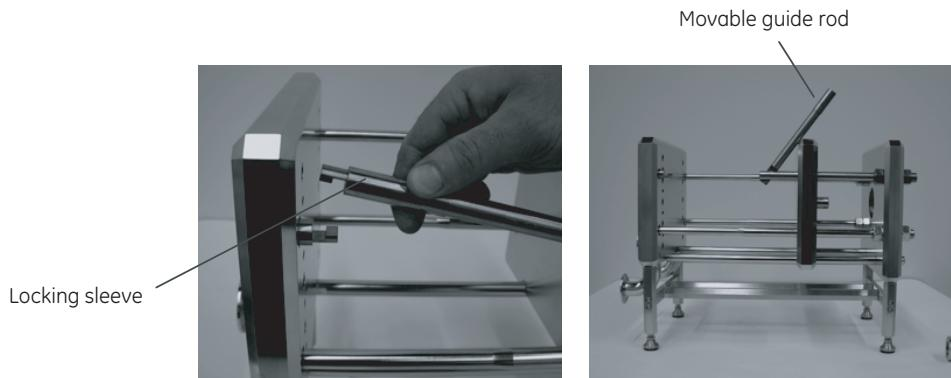

Fig 8. Sliding back the locking sleeve and moving the guide rod before installing the cassette
- 3 Slide back the sleeve on the movable guide rod and lift the guide rod up (Fig 8).